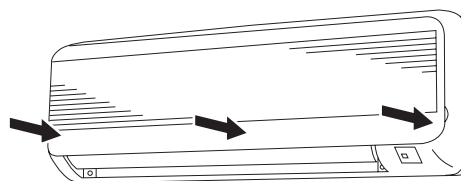

Fig. 1-40b
- (3) Press at each of the 5 tabs to completely close the grille. Make sure that the grille and frame are firmly fitted together. (Fig. 1-40b)